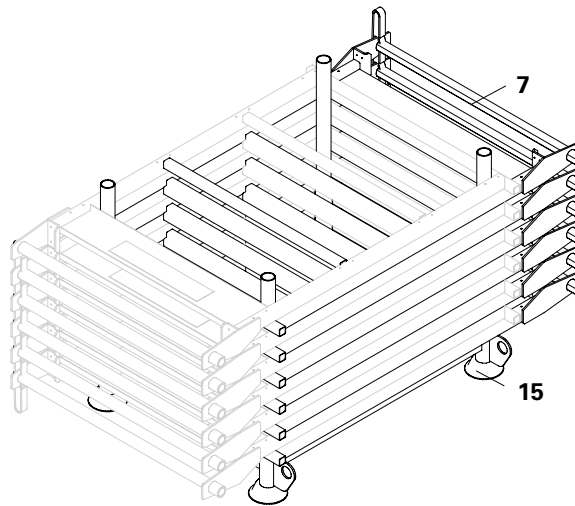

Fig. A1.11
The Pallet RP 80 x 110 (15) is used exclusively for storing GRIDFLEX Guardrails GF 100 (7), maximum 12 pieces. (Fig. A1.11)